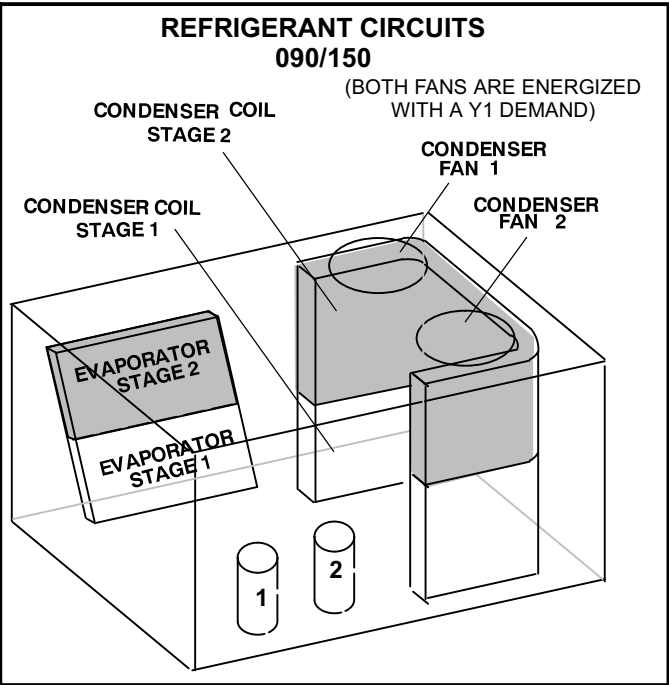

FIGURE 18
- 3- Units contain two refrigerant circuits or stages. See figure 18.